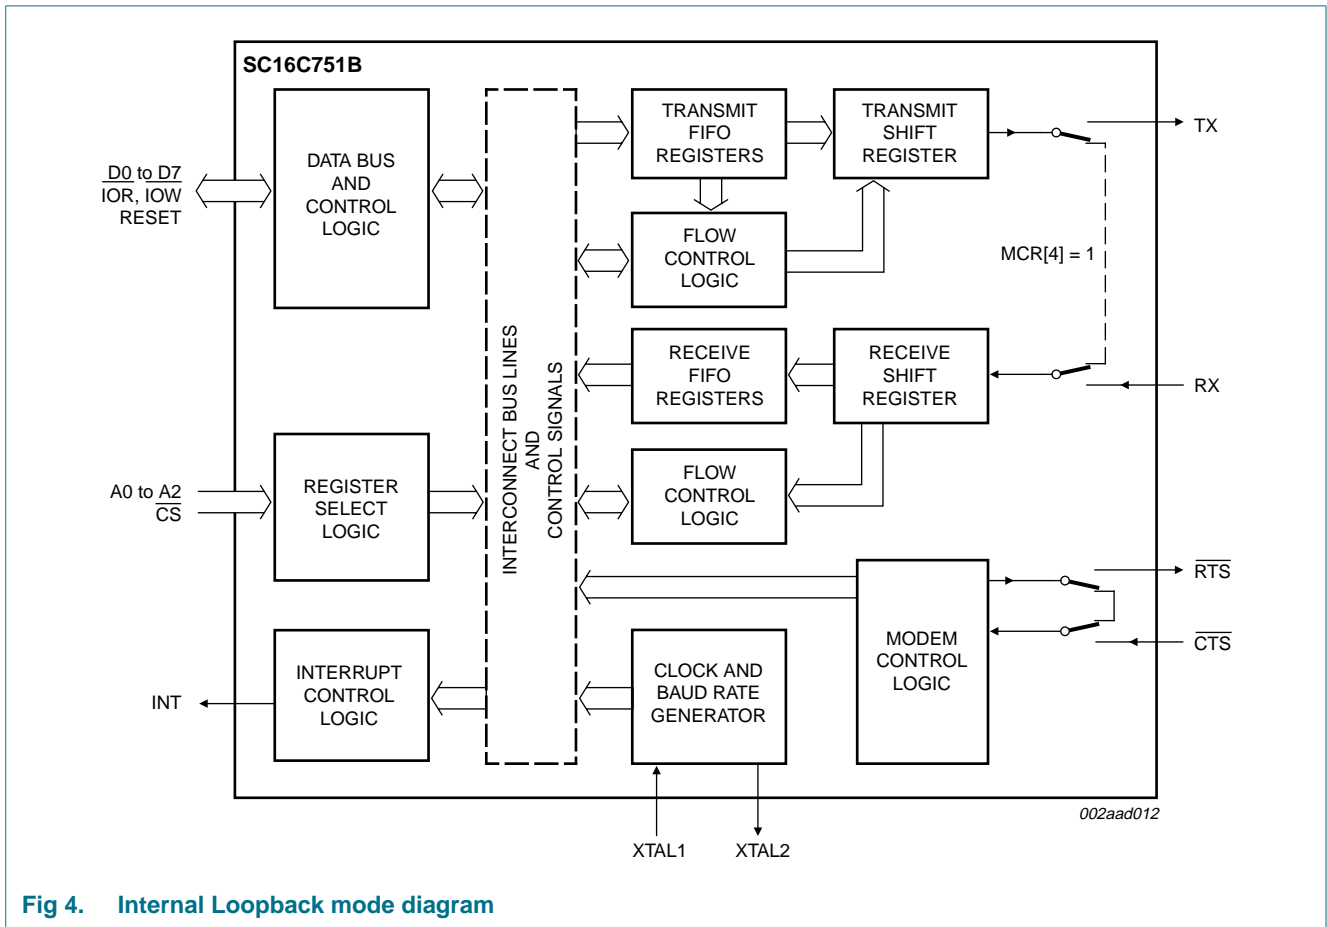

Fig 4. Internal Loopback mode diagram
The internal loopback capability allows on-board diagnostics. In the Loopback mode, the normal modem interface pins are disconnected and reconfigured for loopback internally. MCR[3:0] register bits are used for controlling loopback diagnostic testing. The transmitter output (TX) and the receiver input (RX) are disconnected from their associated interface pins, and instead are connected together internally (see Figure 4). The $\overline{\text{CTS}}$ is disconnected from its normal modem control input pins, and instead is connected internally to $\overline{\text{RTS}}$. Loopback test data is entered into the Transmit Holding Register via the user data bus interface, D0 to D7. The transmit UART serializes the data and passes the serial data to the receive UART via the internal loopback connection. The receive UART converts the serial data back into parallel data that is then made available at the user data interface D0 to D7. The user optionally compares the received data to the initial transmitted data for verifying error-free operation of the UART TX/RX circuits.